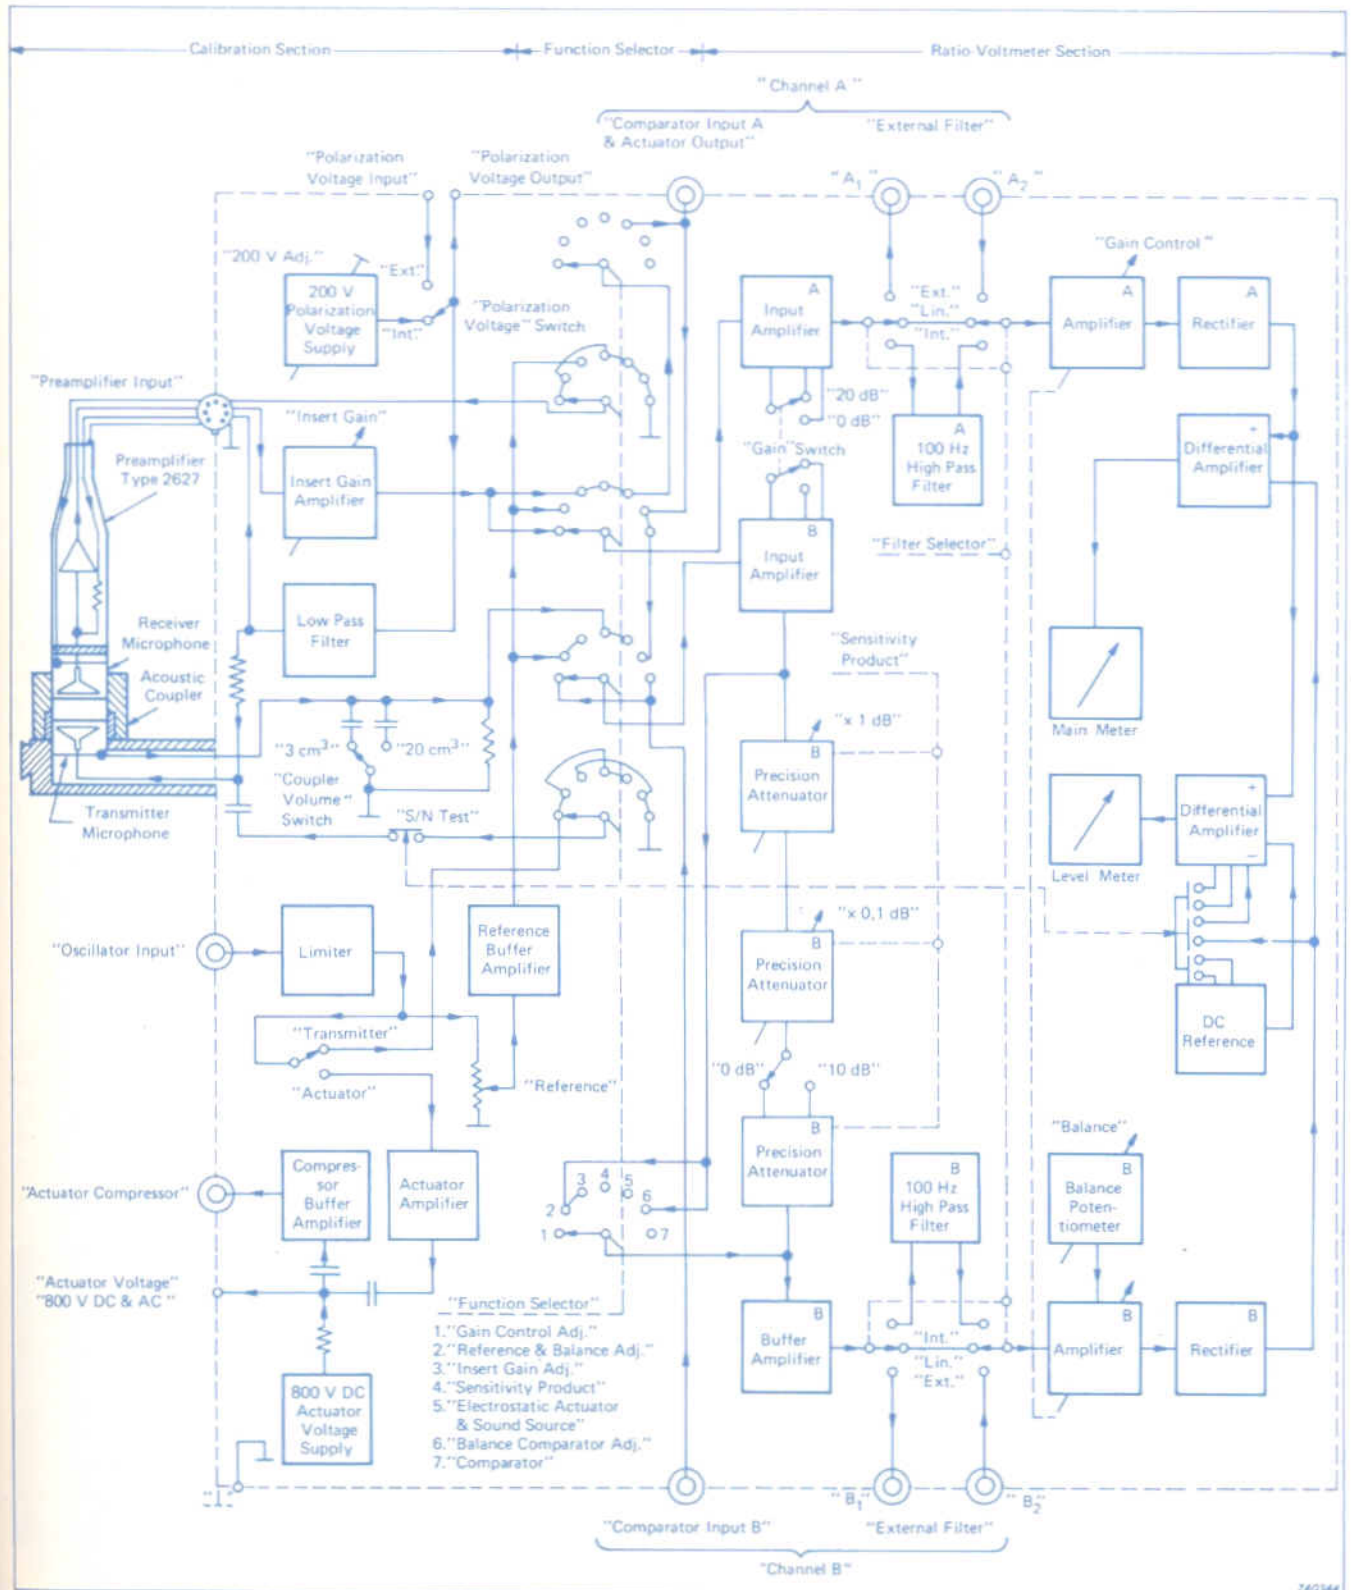

Fig.3. Simplified block diagram of Type 4143
The 4143 consists basically of a calibration section and a ratio-voltmeter section interconnected via a function selector. See Fig. 3.
test facility is also included. See the block diagram in Fig. 3.
2. As zero indicator, where the 4143 indicates equality of two signals. The signals are applied to the 4143 via the COMPARATOR inputs A & B or the EXTERNAL FILTER inputs A₂ and B₂. See Figs.3 and 6.